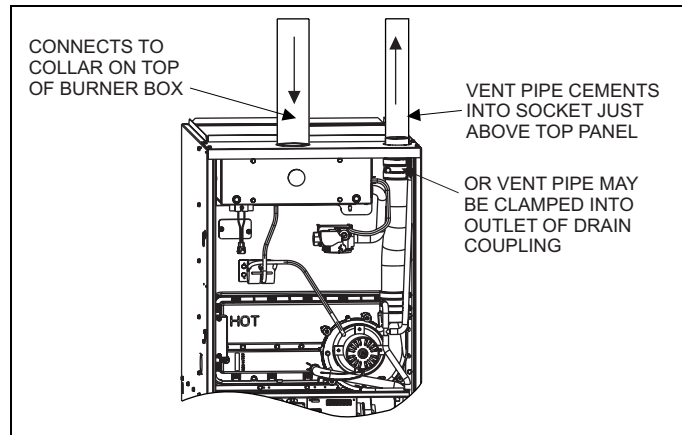

FIGURE 15: Sealed Combustion Air Intake Connection and Vent Connection
1. **OUTDOOR COMBUSTION AIR:** This is a sealed combustion air configuration where the combustion air is supplied through a PVC or ABS pipe that is connected to the PVC coupling attached to the burner box and is terminated in the same atmospheric zone as the vent. This type of installation is approved on all models. Refer to Figure 15.
This installation requires combustion air to be brought in from outdoors. This requires a properly sized pipe (Shown in Figure 15) that will bring air in from the outdoors to the furnace combustion air intake collar on the burner box. The second pipe (Shown in Figure 15) is the furnace vent pipe.